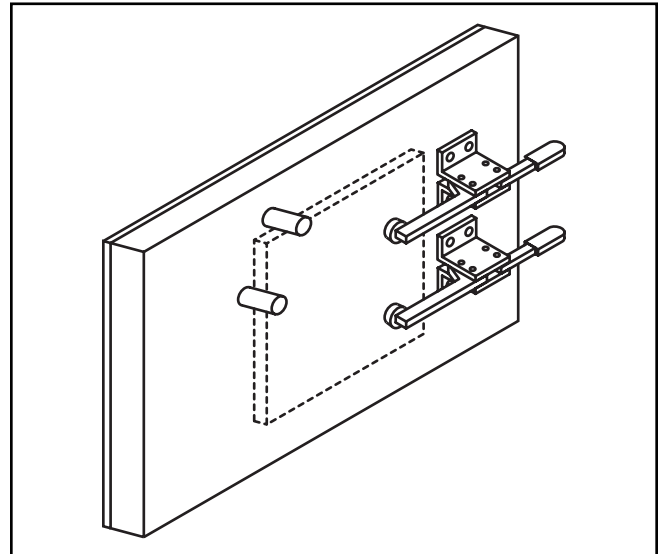

Figure 25. Top side of the pattern template.
6. Flip the MDF over to the blank side. Two dowels and clamps need to be mounted as shown in **Figure 25**.